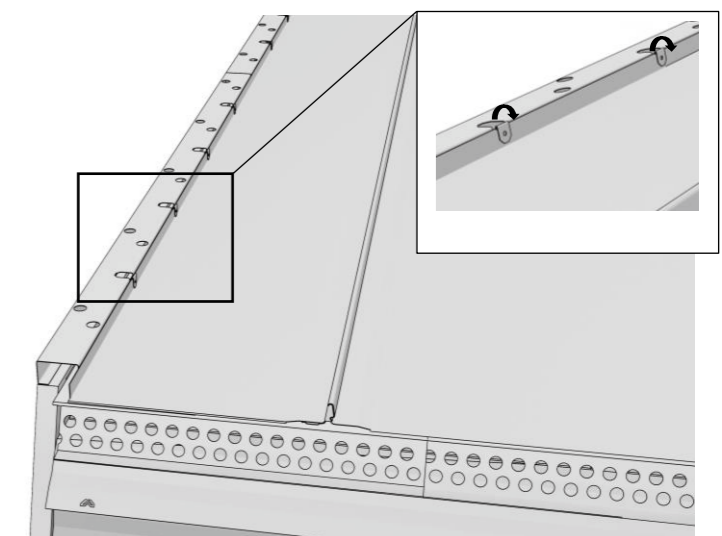

Fig. 13c
- Bend the installation strip plates (Fig. 13c).